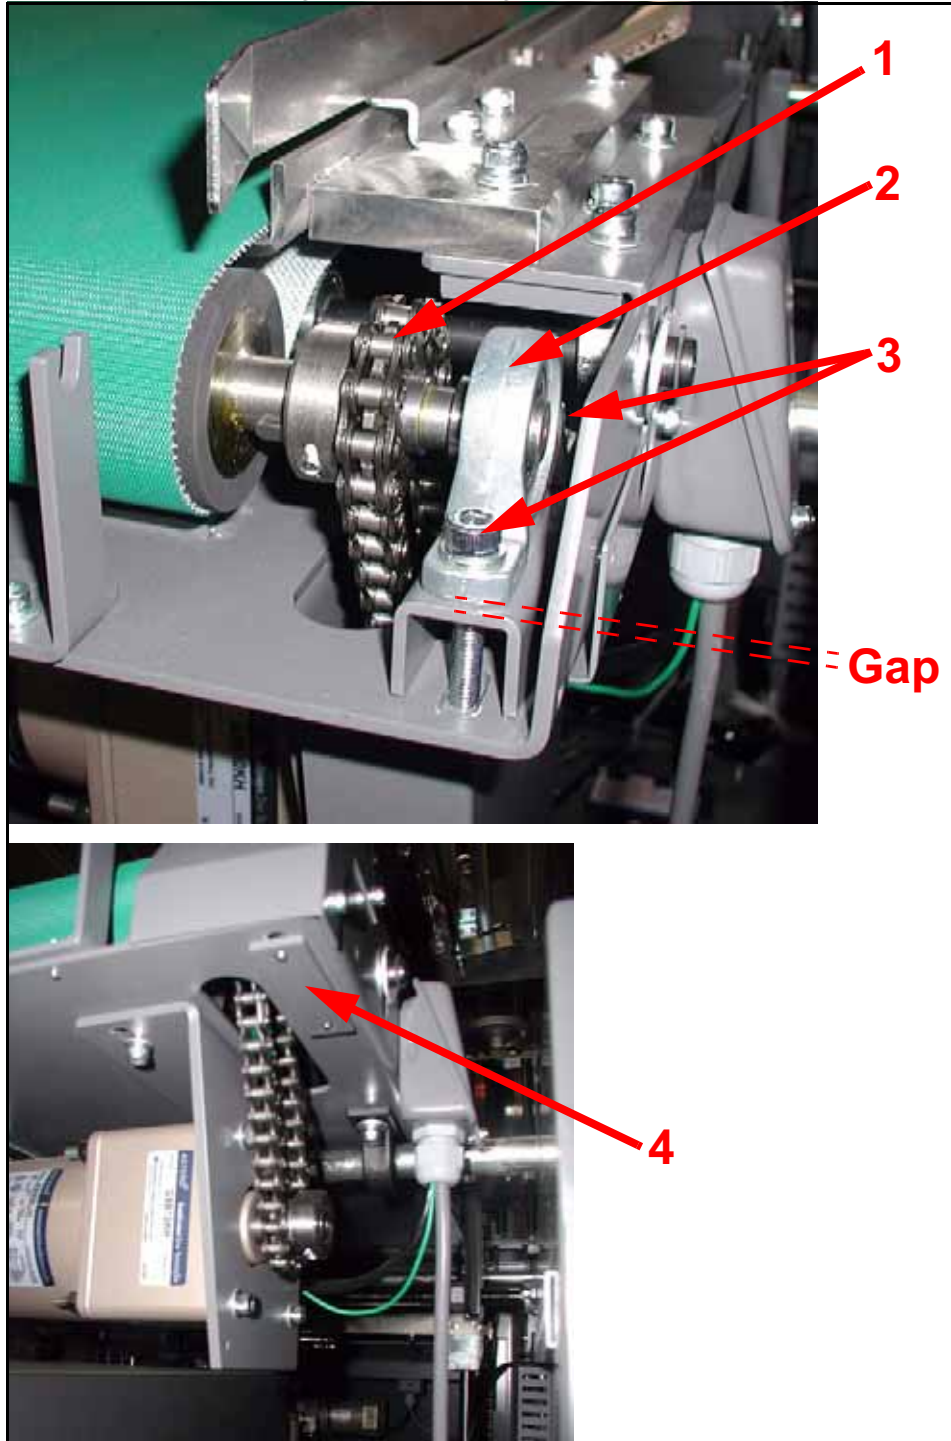

Figure 7-11. Reinstalling Chain
- 11 Reconnect chain (1 in Figure 7-11).
- 12 Slide pillow block (2) back until chain is taunt and secure block in place with bolts (3) and nut plate (4).
- 14 Secure left pillow block in place with bolts (1) and nut plate (2). Make sure the gap shown below matches the gap shown in Figure 7-11.